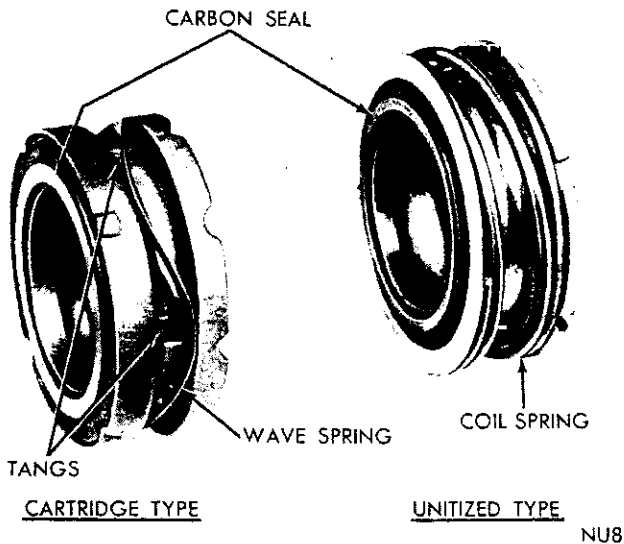

Fig. 13—Gas Seal Identification
The crankshaft gas seal replacement package consists of the crankshaft gas seal assembly and crankshaft bearing housing seal seat plate. Two types of crankshaft seals are supplied for service (Fig. 13). If the replacement package contains the cartridge-type seal, follow the entire installation procedure given below. If the replacement package contains the unitized type seals, follow the appropriate sections only.
(1) Immerse the new seal seat in clean refrigerant oil and install in the bearing housing with the smooth (micro finish) side up. Use a sleeve with the minimum inside diameter of 1-3/8" to avoid damaging the micro finish sealing surface of the face plate. Tap the sleeve lightly until the seal seat is fully seated in the housing.
(2) Before installing the cartridge-type assembly, inspect the assembly to make sure that the tangs of the carbon seal are indexed in the slots of the mating steel part (Fig. 13).
(3) Immerse the seal assembly in clean refrigerant oil, carbon ring up.
(4) Hold the seal assembly firmly at the outside edge, at the same time preventing the ring from coming out of position. Do not touch the sealing face of the carbon seal.
(5) When the seal bottoms against the crankshaft bearing, inspect the indexing tangs of the carbon ring again.